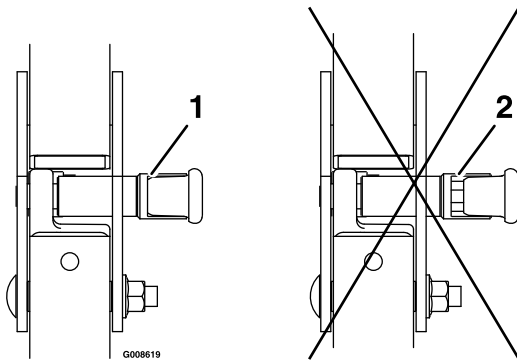

Figure 9
6. Push on the roll bar and ensure that both pins are engaged (Figure 9).